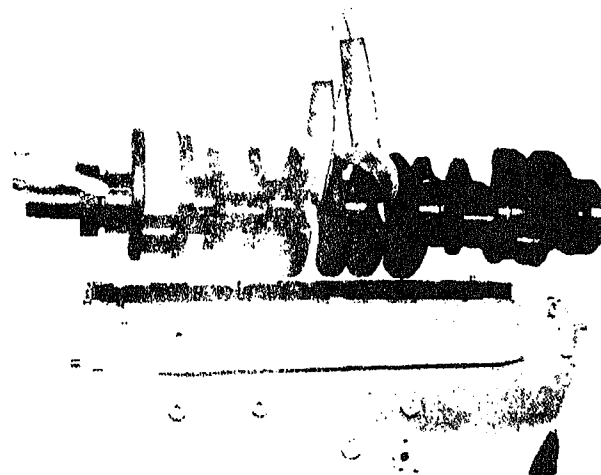
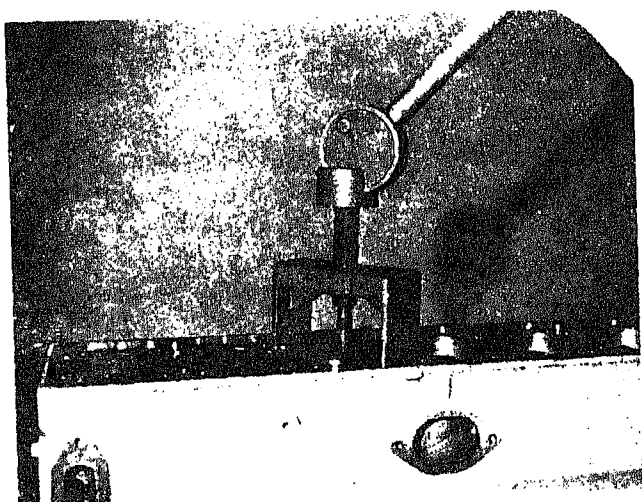

Fig. 0-59. Pulling cylinder liner from block
Fig. 0-58. Pulling liner with Liner Puller
**Note:** The elevated top plate straddles the cylinder liner. Fig. 0-58; the adapter plate, Fig. 0-59, is placed on bottom of cylinder liner and held in place with a nut. When using the cylinder liner puller, be careful not to mutilate machining surface of cylinder block.